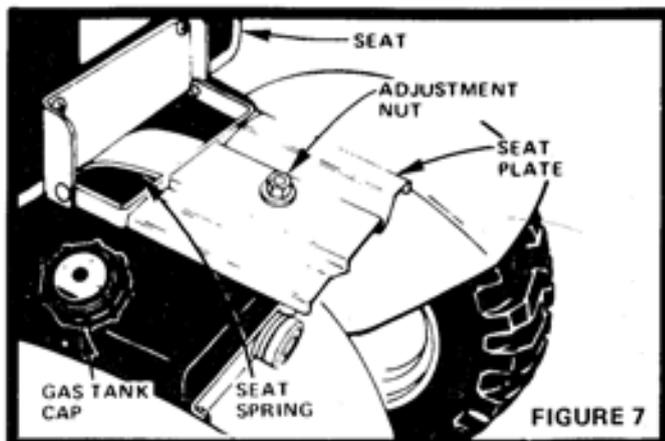

FIGURE 7
- Seat position may be adjusted forward or backward by loosening Nut in Seat Plate (Fig. 7). NOTE WHEN RE-TIGHTENING NUT AFTER ADJUSTMENT MAKE SURE SEAT PLATE HAS NOT TWISTED OUT OF ALIGNMENT WITH SEAT SPRING.
- Fuel Tank (Fig. 7) with fresh regular grade lead free or leaded gasoline. Capacity is 3 1/4 gallons. NOTE: DO NOT SWITCH FROM LEADED TO LEAD-FREE GASOLINE.